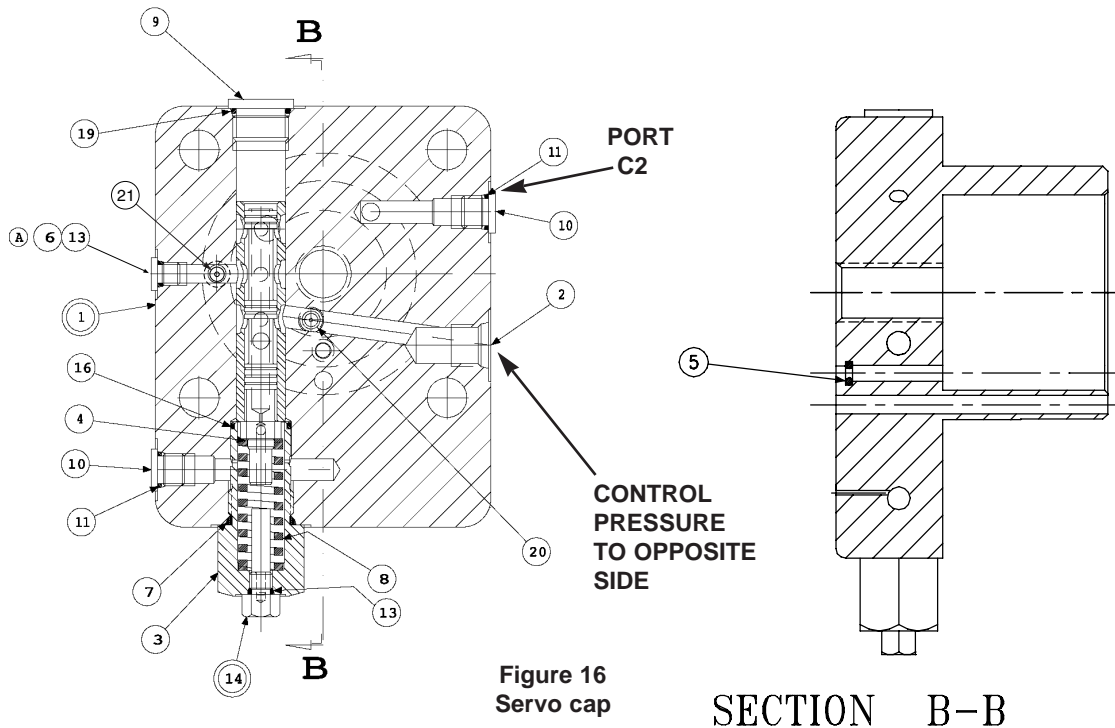
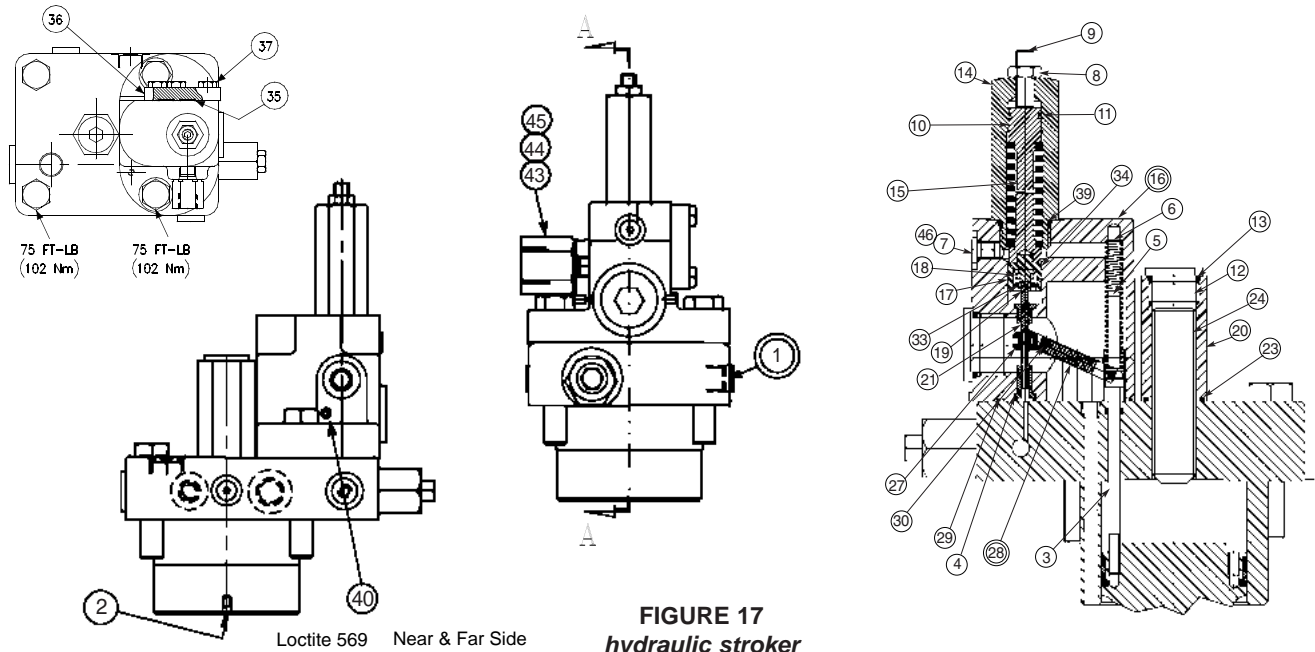

Figure 16
FIGURE 17
2. Remove all parts from body (16) except pin (30) and arm assembly (28). It is not necessary to remove these parts unless broken or worn. Examine parts for wear or damage.
3. Remove screw (3). Examine head for excessive wear, and body for smooth sealing surface with O-ring.
4. See Figure 16. Remove tube lines to cap assembly.
6. Remove cap assembly (1). Remove plug (3) with attached parts. Remove spring (8) and spool (4).
7. Do not remove sleeve in body (1). Sleeve is pressed into cap and finished to size. If sleeve or cap is worn, replace the cap-sleeve assembly (1).
1. See Figure 16. Install plug (6) and O-ring (13) in cap.
2. Install spool (4) into bore as shown. Install spring (8) over end of spool.
3. Install plug with stop (14) and O-ring (13) into plug (3).
4. Install O-rings (7) and (16) on plug (3). Install plugs (3) and (9) into body (1).
5. Install orifices (20) and (21) and plugs (10). Torque plugs. Install O-ring (5) in cap.
Ref. Figure 16
PARTS LIST FOR FIGURE 16
1. See figure 17. Remove 2 screws holding body (16) to cap assembly (1).
4. See figure 16. Remove tube lines to cap assembly.
6. Remove cap assembly (1). Remove plug (3) with attached parts. Remove spring (12) and spool (4).
8. See figure 17. Apply thread locking compound on threads of screw (3), lubricate the shank, thread through the cap into the control piston, and torque to 5 lb. ft. (6.78 N m).
9. Install minimum stop screw (24) and turn clockwise to stroke pump to full volume. Measure height from control cap to top of screw (3). With control piston at full stroke, dimension must be .67 +/- .03 in. (16,9 +/- 0.76 mm). Back out minimum stop screw (24) till there is no contact with control piston.
10. Press dowel (30) into body (16), through the link (28), to 1/4, (6.35 mm) below surface. Apply hydraulic sealant to threads of screws (40) and install over dowel (30).
11. Press spool (21) into retainer (19). Caution: do not use excessive force. Place spool/retainer assembly into spool (17) with spring (18) and washer (34). Secure with retaining ring (33).
12. While sleeve (27) is engaged into dowel on link (28), slide above spool assembly into bore of body (16), and through sleeve (27). Spool (21) must move freely and easily at all positions of the link (28).
13. Assemble all other components into body (16) per above drawing. Torque plug (12).
14. While spring retainer is engaging clevis pin (5) under dowel of link (28), slide the other opening of spring retainer over the top of the screw (3). Attach body assembly (16) to cap (1) with two screws, and torque to 75 lb.-ft. (102 N m).
PARTS LIST FOR FIG. 17